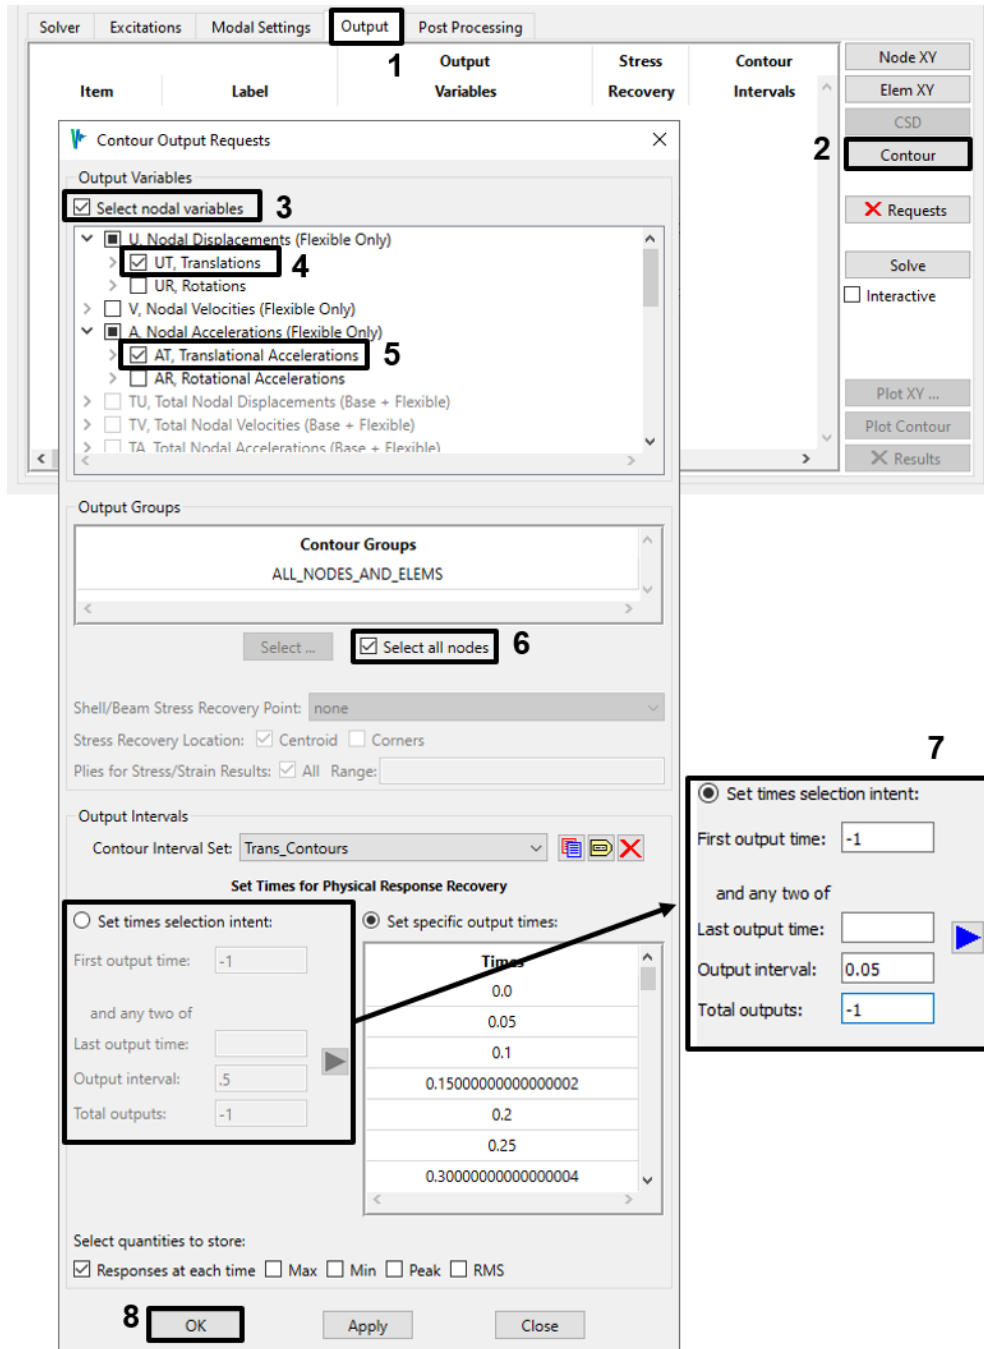

Figure 4-99. Request displacement and acceleration contours for all nodes at 0.05 second intervals.
- On the Output tab, create a contour request for translational displacements and accelerations (UT and AT) for all nodes in the model. Request output at 0.05 second intervals to span the defined start and end times of the event (Figure 4-99); for a 4.0 second time span, this will produce 81 output time steps. Note that Vibrata will change your definition to its preferred form (inset) when you click **Apply** or **OK**; this will produce the same results as settings you entered. Click **OK** to create the request.